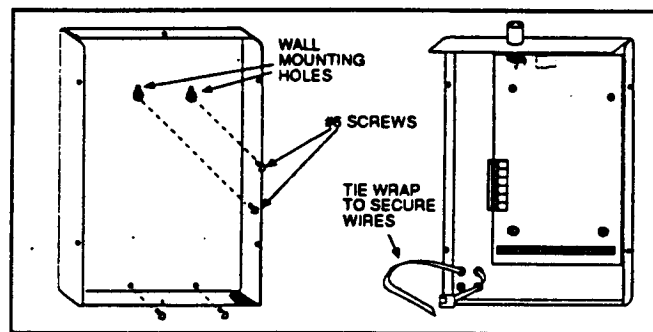

Figure 4: Transmitter Enclosure
2. Mount the transmitter enclosure directly to the wall with four #6 screws, as shown. (See Figure 4)
Connect the transmitter to the C601 Encoder as shown in Figure 5. Secure the wires to the enclosure using the grommet (provided) and a tie wrap (see Figure 4). Use at least 18 gauge wire.